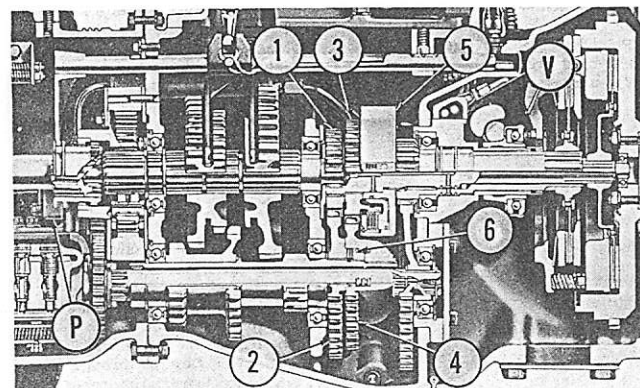

Fig. 216—Cross sectional view of "Multipower" transmission.
184. Refer to Fig. 216. The "Multipower" unit consists of the low-range drive gears (1 & 2), high range drive gears (3 & 4), the hydraulically actuated "Multipower" clutch (5), the